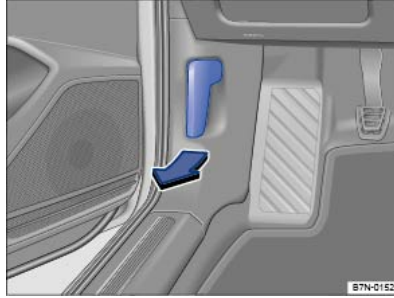

Fig. 223 In the footwell on the driver's side: release lever for the bonnet.
- Ensure that the wiper arms are positioned on the windscreen before opening the bonnet ⇒ ①.
- Open the driver door and pull the release lever in the direction of the arrow ⇒ Fig. 223. The bonnet is released from its lock by a spring mechanism ⇒ ⚠.